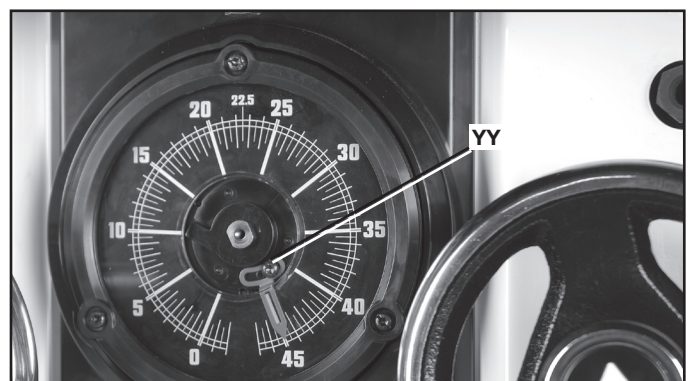

FIG. 45
3. Loosen angle indicator screw (YY) Fig. 45.